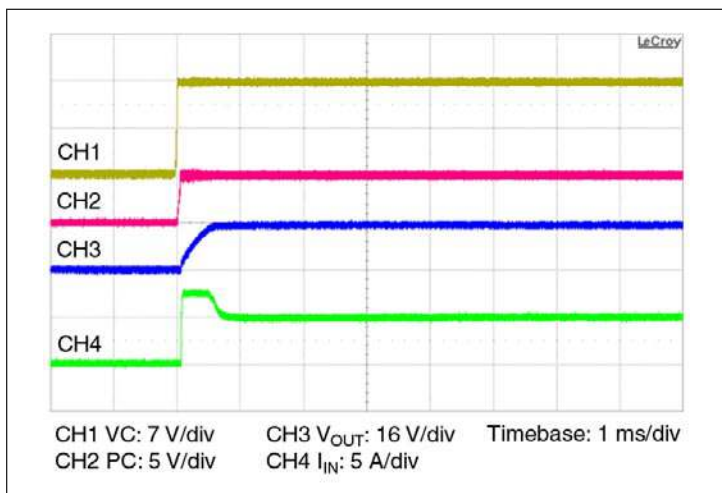

Figure 11 — Start up from application of VC;
- **Stand-alone operation (VC applied after VIN):** In this case the VTM output will begin to rise upon the application of the VC voltage (See Figure 11). The Adaptive Soft Start Circuit (See Section 11) may vary the output rate of rise in order to limit the inrush current to its maximum level. When starting into high capacitance, or a short, the output current will be limited for a maximum of 1200 µsec. After this period, the Adaptive Soft Start Circuit will time out and the VTM module may shut down. No restart will be attempted until VC is re-applied or PC is toggled. The maximum output capacitance is limited to 800 µF in this mode of operation to ensure a successful start.